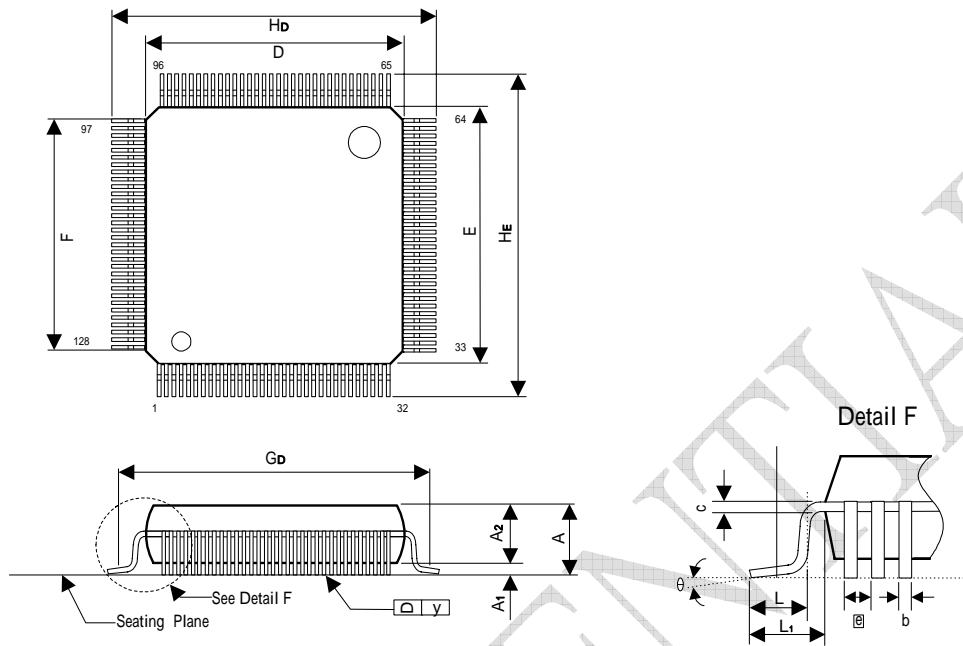

**Figure 9-6
- A crystal can be used to generate the 25MHz reference clock instead of an oscillator. The crystal must be a fundamental type, series-resonant, connected to X1 and X2, and shunt to ground with 22pF capacitors. (See Table 9-3 and Figure 9-6.)